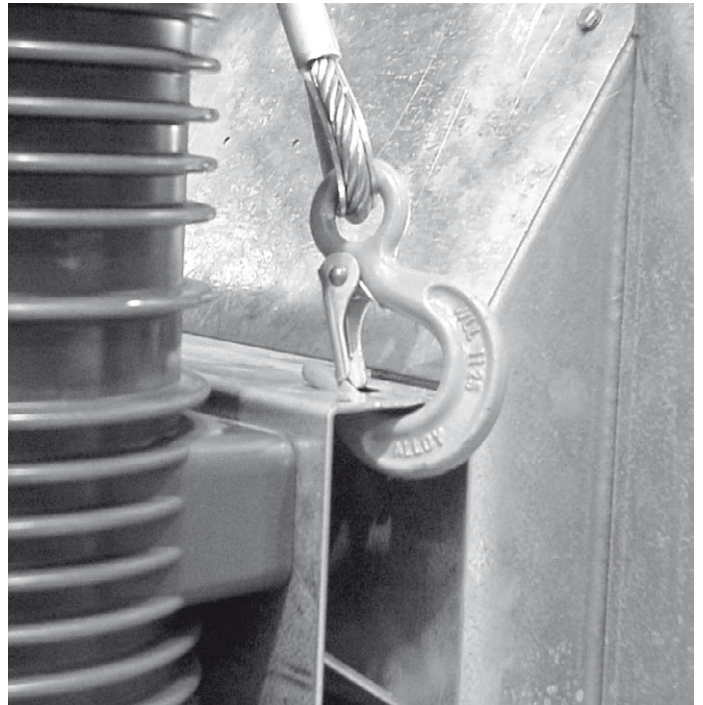

Figure 2. Hooks and lifting holes for DS1
Use the tool (1) in (fig. 2) to lift and handle the apparatus.
If this method is unavoidable, place the apparatus on a sturdy supporting surface (see fig. 2).
A new capacitor switch concept has been developed by combining of a mechanical contact system and diodes. The mechanical contact system is operated by a servomotor controlled by a drive unit. The pole switch is illustrated in Figure 2, which shows the cross section of a power part and relative kinematic chain.